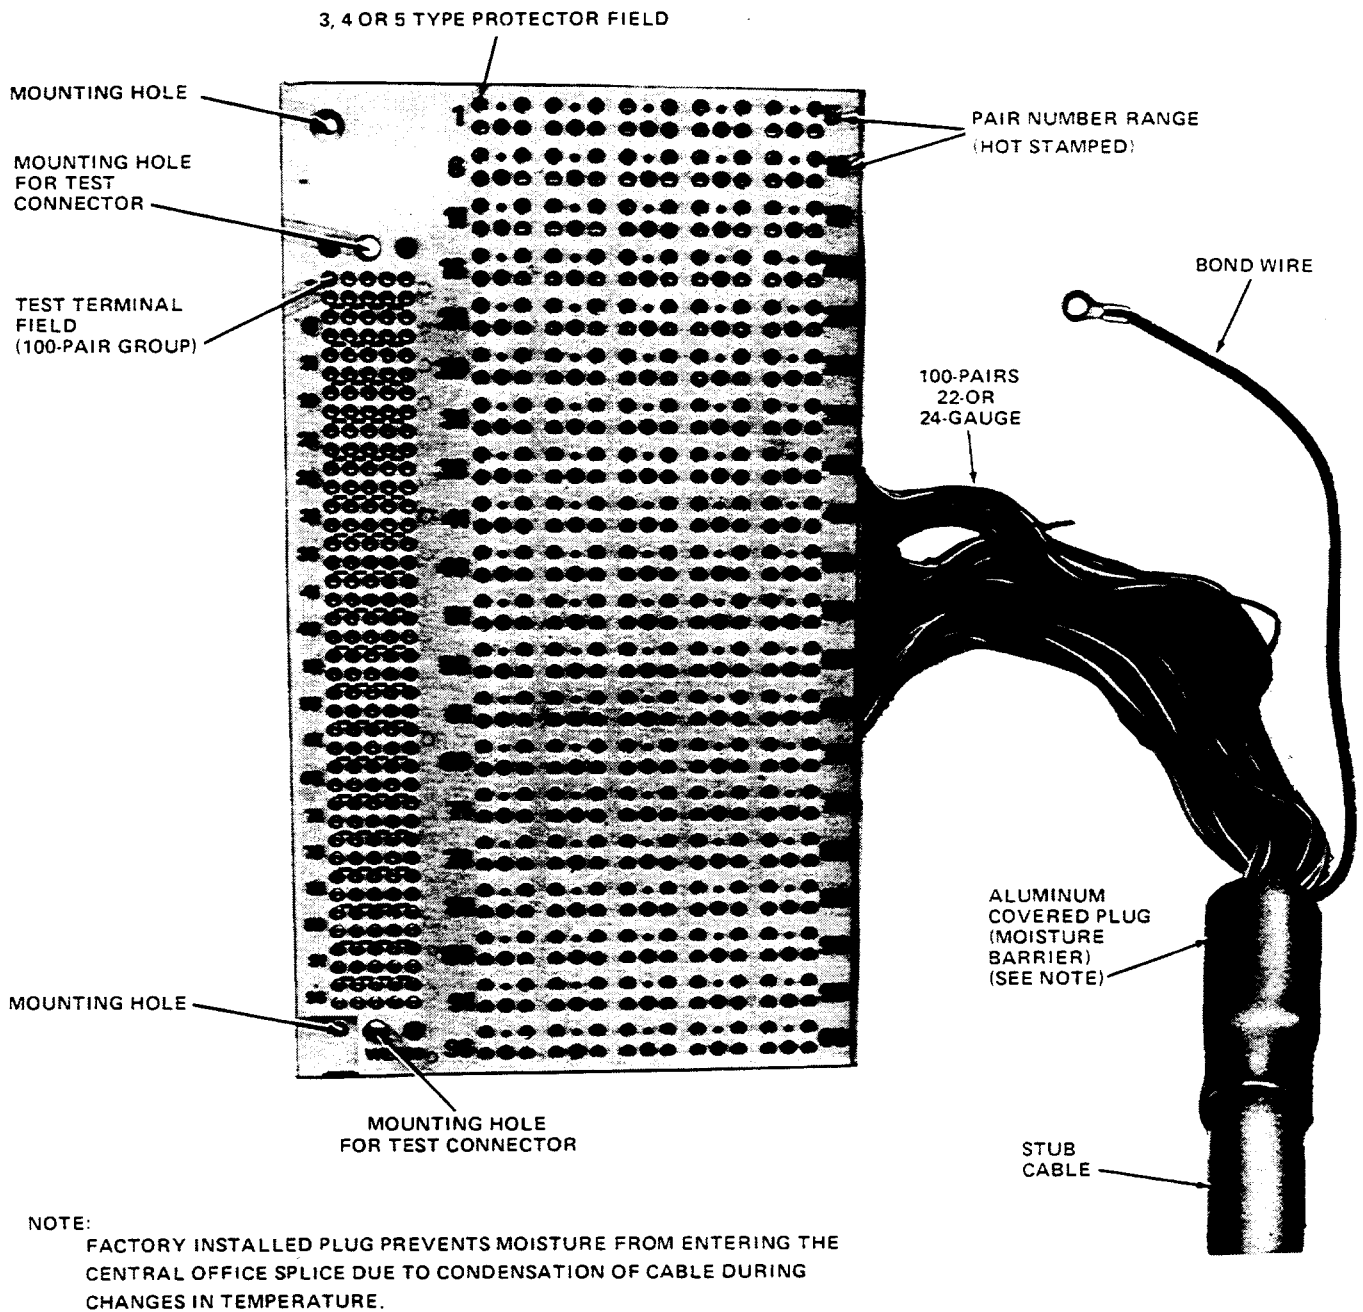

Figure 1—308-Type 1 Connector for use on High Density Modular Protector Frame
2.02 The 308-type 1 connector (Figure 1) is a high density connector used to terminate outside plant cables on the High Density Modular Protector Frame, ED97898-31. It provides electrical protection for 100 cable pairs when equipped with 3-, 4-, or 5-type protector units. The connectors are available with 22 or 24 gauge reversible cable stubs in 30, 50, 80, 100, 150, and 200 foot lengths. A 100 pair test terminal field is provided. The P or R test connectors mate with the test field for automatic or pair-at-a-time testing.